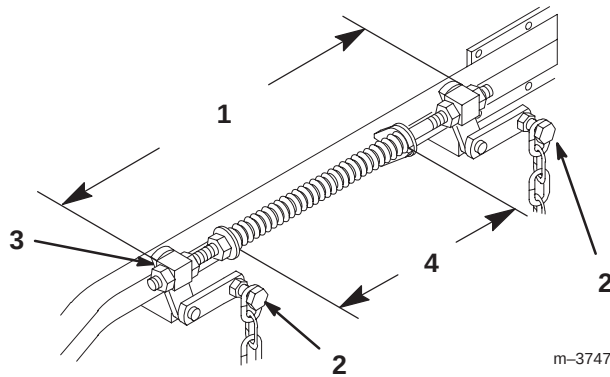

Figure 62
- Loosen four (4) top chain bolts in slots. Check the length of the rod/swivel assemblies. Distance from outside of rear swivel to outside of front swivel should be 19–17/32 inch (496 mm) (Fig. 62). Make sure that all four swivels move freely in holes.
2. Springs are compressed so the distance between the two large washers should be 10-1/4 inch (260 mm) (Fig. 62).
3. Adjust by turning nut in front of each spring (Fig. 62). Clockwise will shorten spring; counter-clockwise will lengthen spring.